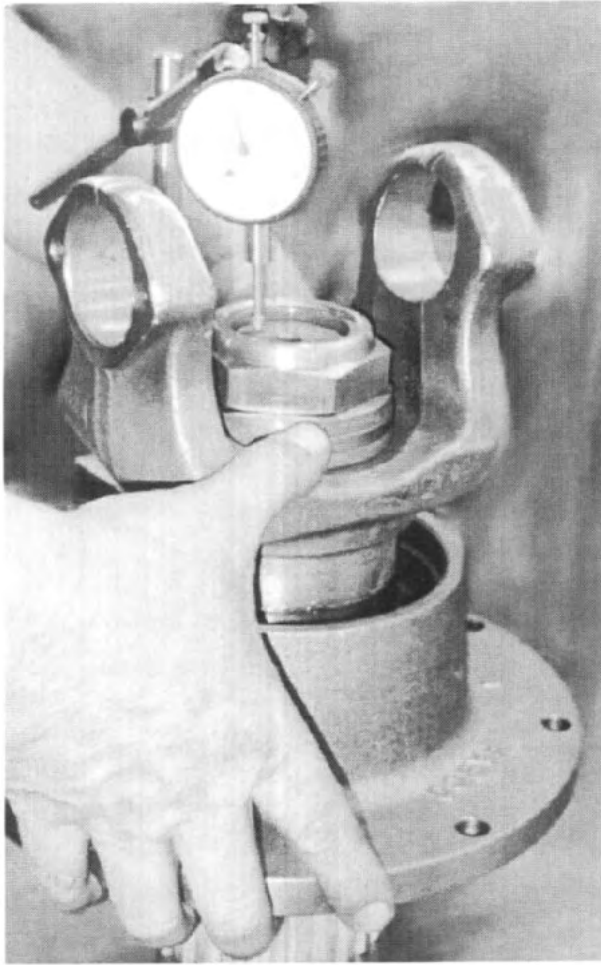

Fig. 55
**NOTE:** IF SPECIAL TOOL # 866 751 IS NOT AVAILABLE, IT IS PERMISSIBLE TO USE THE FRONT OUTPUT SHAFT YOKE TO ACCOMPLISH THE SAME TASK. See Fig. 55.